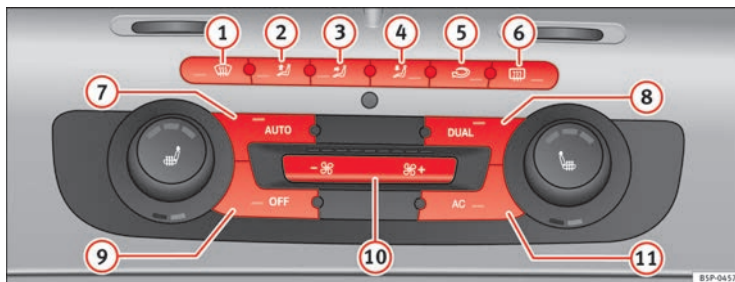

Fig. 129 On the dash panel: 2C Climatronic controls
- Turn the temperature control knobs ⇒ fig. 129 to adjust the temperature on the left hand side or the right hand side respectively.
- Press the  ⇒ fig. 129 button. “AUTO High” is shown on the radio display (high fan speed).
- Press the  button again ⇒ fig. 129. “AUTO Low” is shown on the radio display (low fan speed).